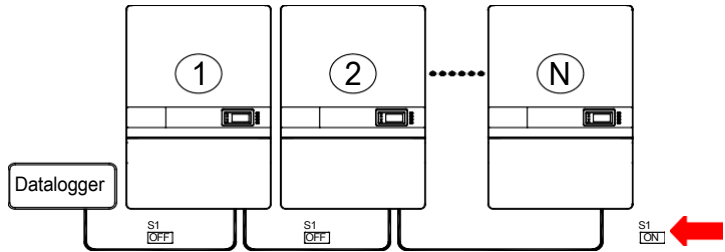

Figure 3-34 RS485 Network Connection
RS485 communication cables are connected via the 5-pin connector to the port labeled (2) in above figure 3-32. When creating a network of multiple inverters, the cables are terminated to the same 5-pin connector and 3-pin connector. Figure 3-34 shows a single inverter communication connection in (1) and a network configuration in (2).